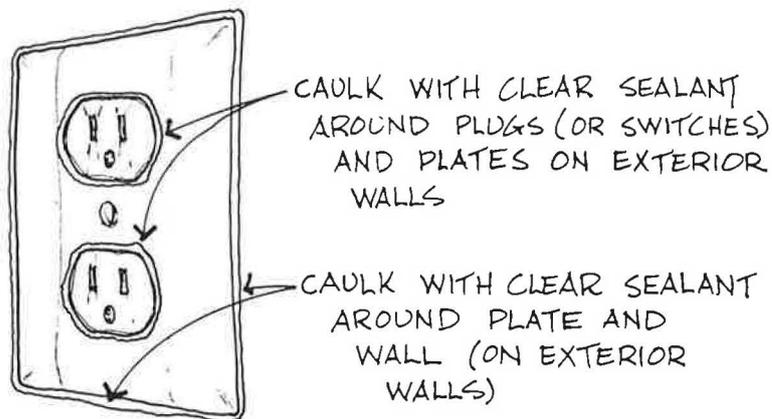

FIGURE 18
- By using clear silicone sealant and drawing a bead around the plate and wall and around the switch or outlets and the plate (as in Figure 18), or